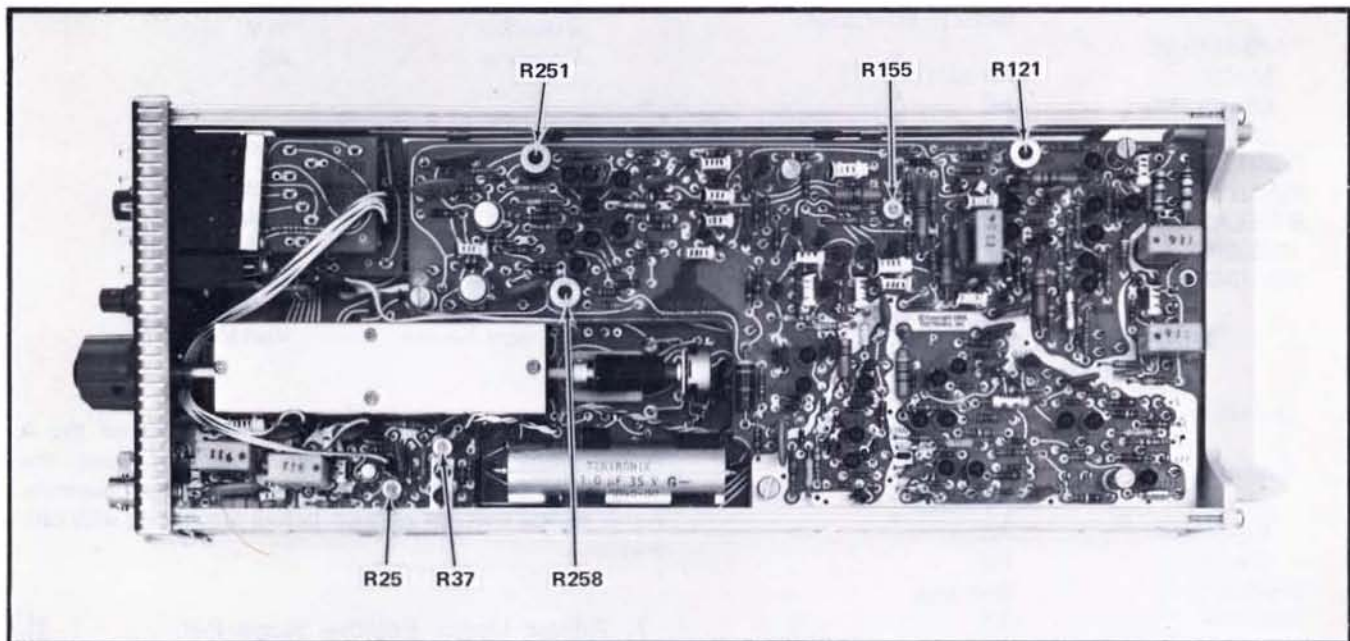

Fig. 5-2. Location of adjustments on Trigger Board.
c. **ADJUST—R251 for a stable display. See Fig. 5-2 for location of adjustment.**
2. Adjust Lower Positive Slope P-P AUTO Level (R258) ❶
b. **ADJUST—R258 for a stable display. Refer to Fig. 5-2 for location of adjustment.**
3. Adjust Negative Slope P-P AUTO Level (R155) ❶
b. **ADJUST—R155 for a stable display. Refer to Fig. 5-2 for location of adjustment. Check for stable triggering over the full 360° range of the LEVEL/SLOPE control.**
6. Adjust DC Level Center (R121) ❶